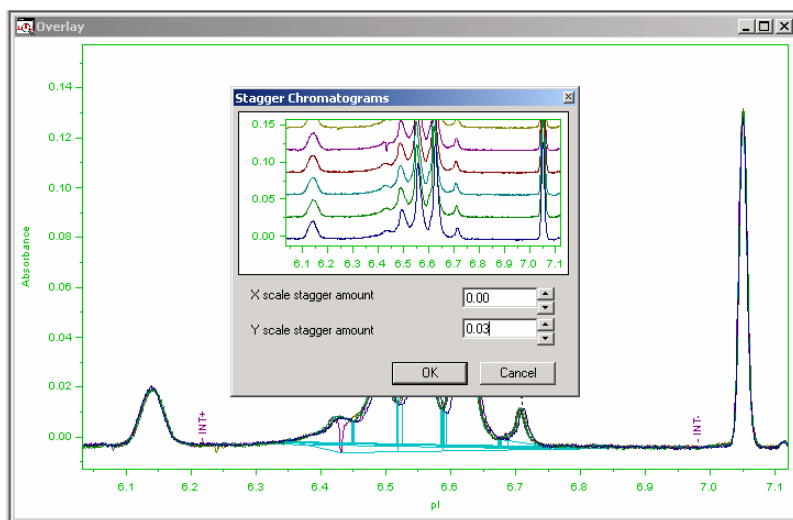
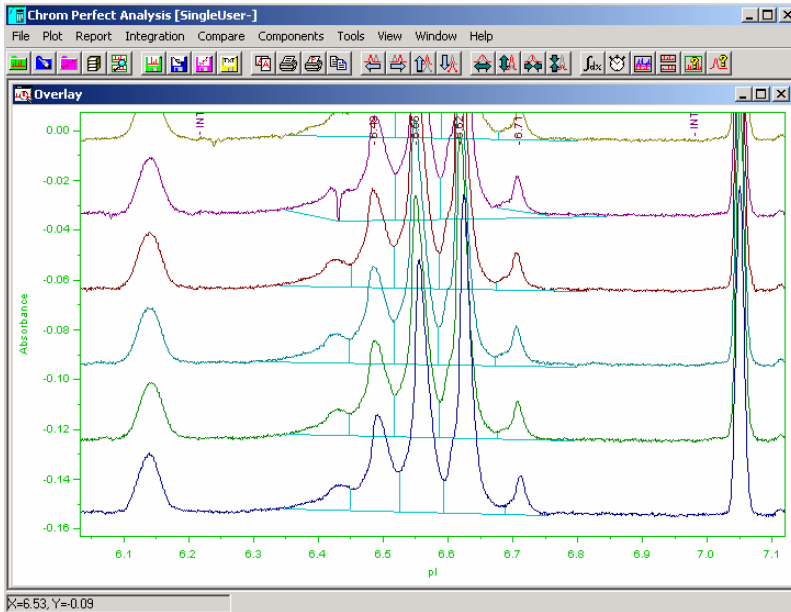

Figure A-54: Staggering Multiple Data Traces (Example A)
Figure A-55: Staggering Multiple Data Traces (Example B)
6. To stagger the multiple data traces, as shown in Figure A-54 and Figure A-55, click **Compare > Stagger Setup** to open the Stagger Chromatograms window.
In the Figure A-55 example, after the staggering, the data traces are out of maximum Y scale. The maximum Y scale needs to be changed.